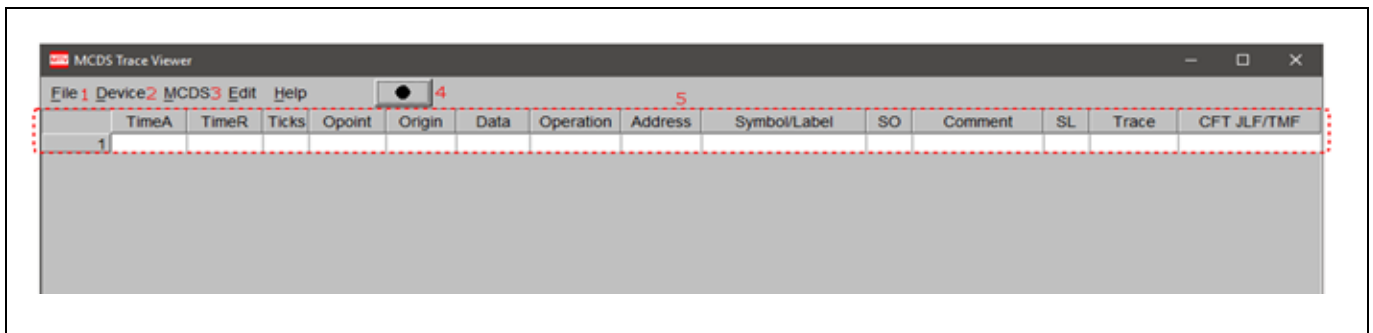

Figure 1 Main MTV GUI
At MTV start-up the main GUI appears, providing some controls and the trace table. The trace table is of course empty at first start-up, and no content is displayed (Figure 1 item (5)).